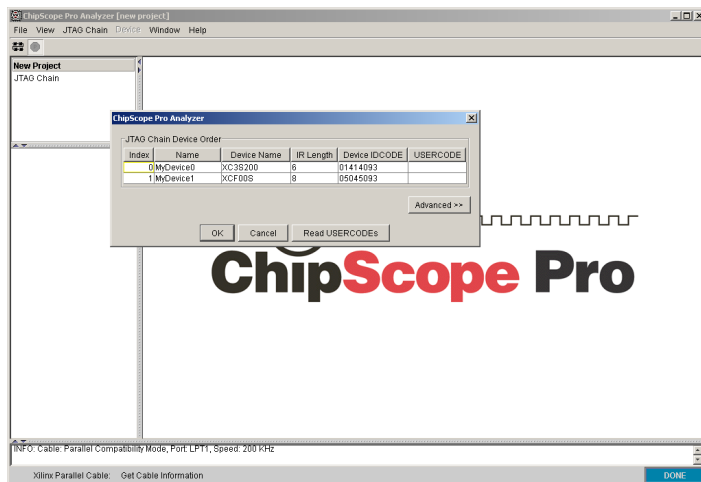

Figure 24
36. It should detect the two available devices in your board (Figure 24). Click on OK.